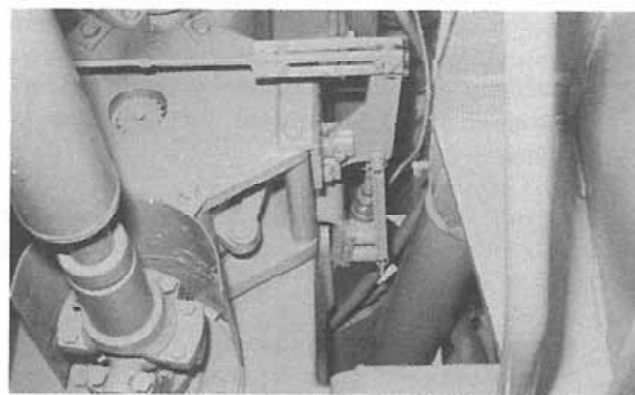

Figure 18:
18. Reinstall the park brake cable with bracket and yoke (Fig. 18). Ensure that full brake application and retraction are permitted after installation.